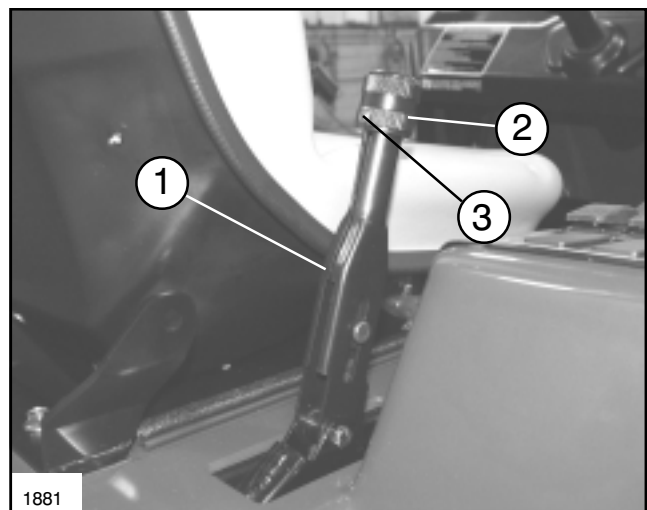

FIG. 30
1. Loosen set screw securing the Adjustment Knob to Emergency/Parking Brake Lever. Rotate the Adjustment Knob on the end of the Lever. Turn it clockwise to increase brake force, counterclockwise to decrease brake force. (See FIG. 30)